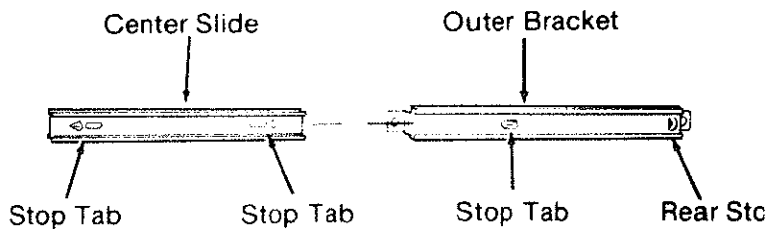

Fig. 58 - Stop Tabs
3. If any of the *drawers* do come all the way out, use a screwdriver to bend out the stop tabs on the *slide brackets*. (Figure 58)